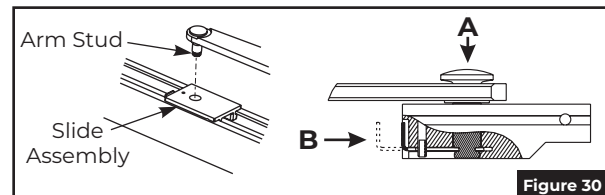

Figure 30
5. Insert stud on arm into slider in track by pressing clip on backside of slider onto stud. (Figure 30)